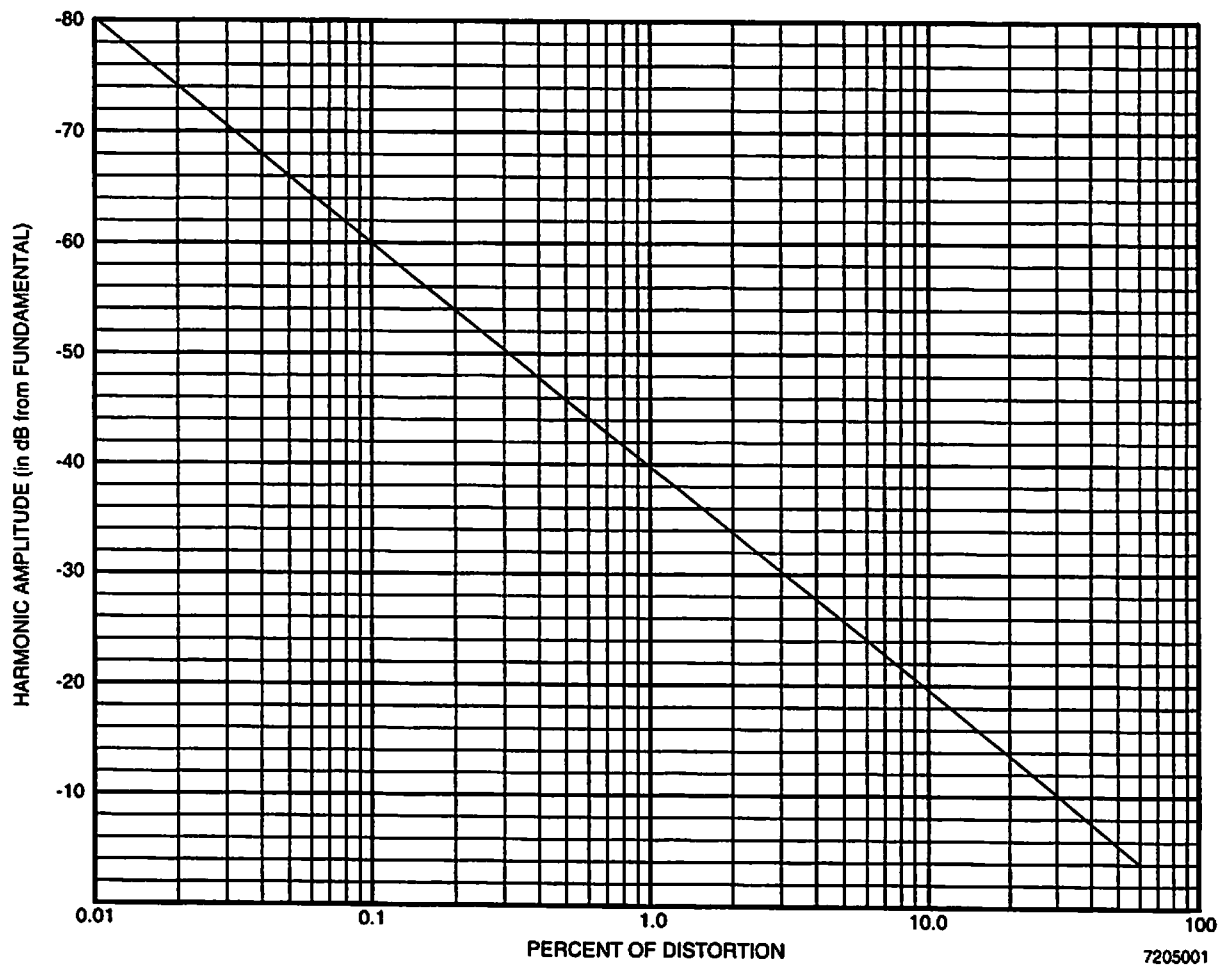

Figure 4-6 Harmonic Distortion Percentage
16. Verify M2 field displays harmonic amplitude referenced to fundamental signal level. Refer to Figure 4-6. Note percent of distortion.